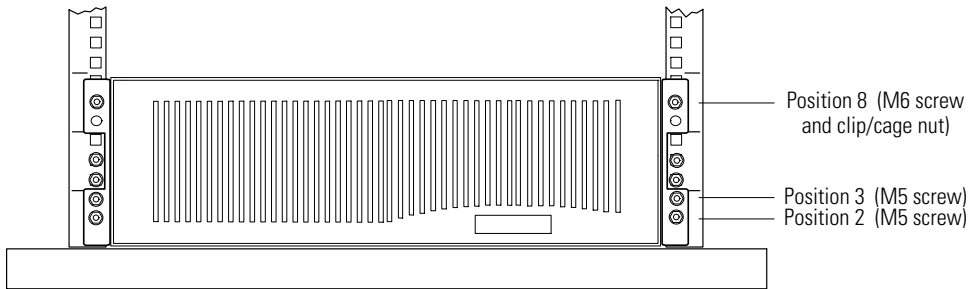

Figure 7. Securing the Front of the EBM
- 12. Install two cage or clip nuts as shown in Figure 7. If the rack holes are square, use two cage nuts. If the rack holes are round, use two clip nuts.
- 14. Secure the front of the cabinet to the rack as shown in Figure 7.